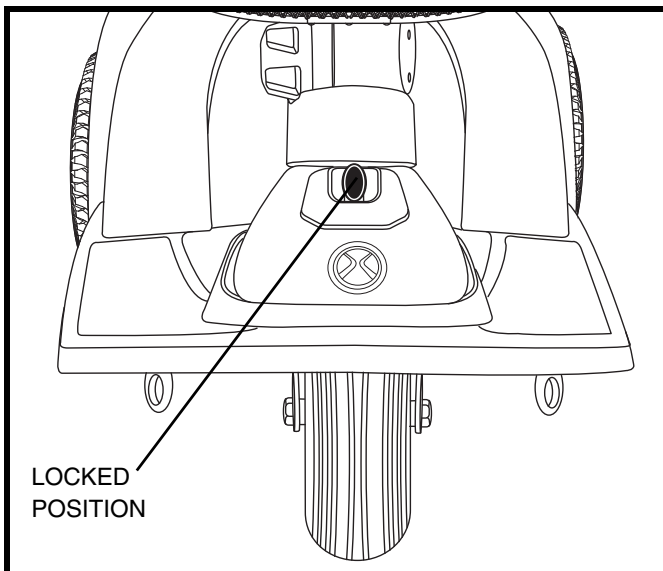

Figure 20. Tiller Lock Knob (Locked)
2. Lock the tiller in the straight ahead position by pushing the tiller lock knob in and turning it clockwise 90°. See figure 20. The front wheel must face forward in order to lock the tiller.
6. Connect the front-to-rear harness, rear lighting harness and both battery harnesses. See figure 20.